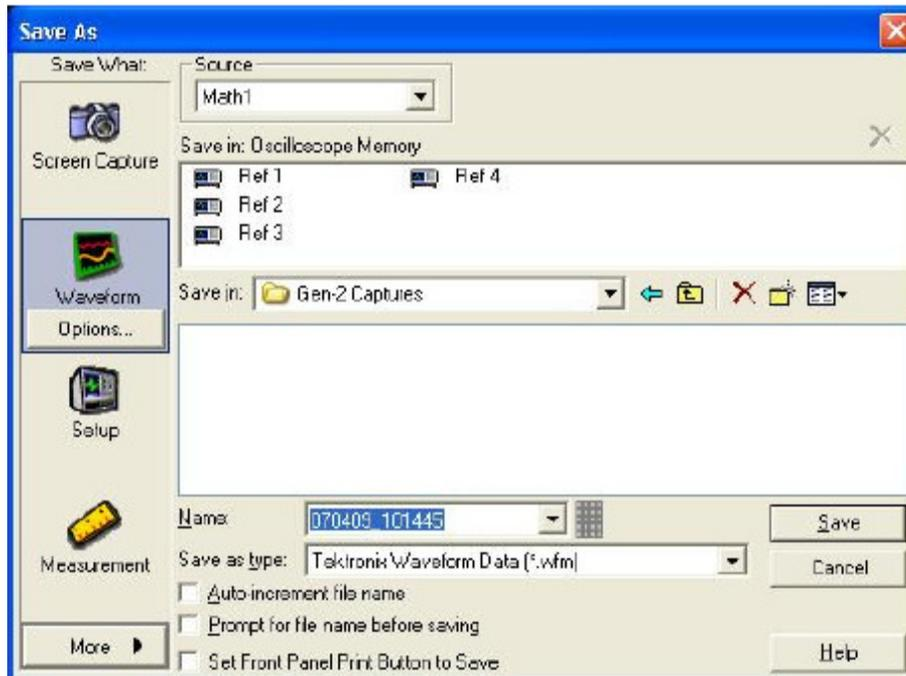
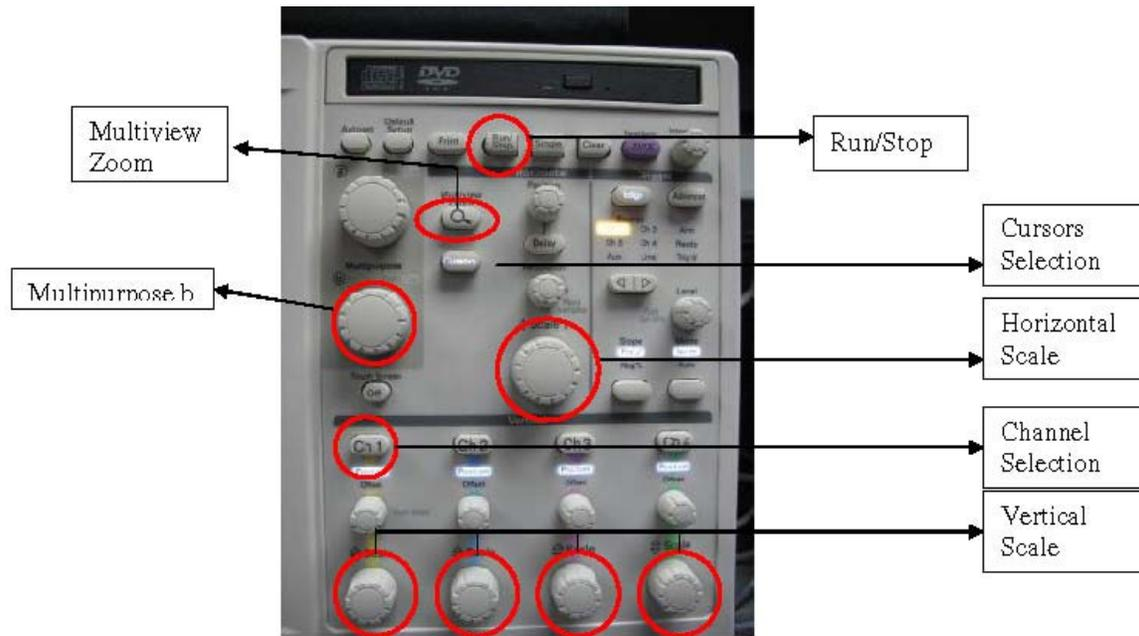

Figure 17. Saving Data waveform
Figure 21. MSO/DSA72004 Scope Front Panel
1. Click on the channel buttons Ch1 and Ch2 (Shown in Figure 16 and Figure 17). Turn off Ch1 and Ch2.
- Make sure that the pattern on the scope is Compliance pattern as specified by PCIe Base Specification 3.0. By default the compliance pattern is sent at 2.5GT/s. Use the cursors button (Shown in Figure 16 and Figure 17) to place cursors on a pair of adjacent crossover locations that are closest together to make sure that the unit-interval (UI) is around 400ps (for 2.5 GT/s).
- Click the Multiview Zoom button on scope front panel, use Multipurpose b knob (Refer Figure 16 and Figure 17) to increase the Zoom factor to a value where you can see the zoomed waveform clearly. Refer to Figure 21.
3. Use the cursors button (Shown in Figure 16 and Figure 17) to place cursors on a pair of adjacent crossover locations that are closest together to make sure that the unit-interval (UI) is around 200ps (for 5 GT/s).